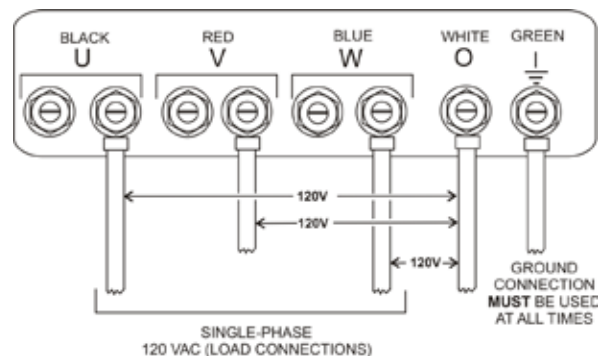

Figure 23. UVWO Terminal Lugs 1Ø-120V Connections
3. Connect the load wires to the UVWO terminals as shown in Figure 23.